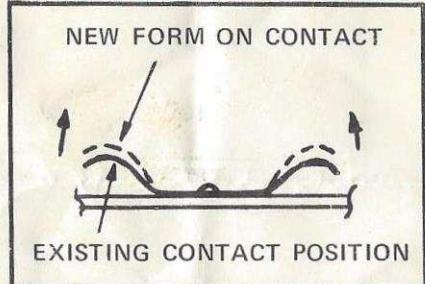

FIG.1
- Skrub løs de to skruene øverst på esken og ta av lokket (Fig.1.)
Due to variation in battery lengths it may be necessary to carefully bend the contacts in the box lid, as shown in Fig.1 in order to ensure that contact is made on all the batteries.